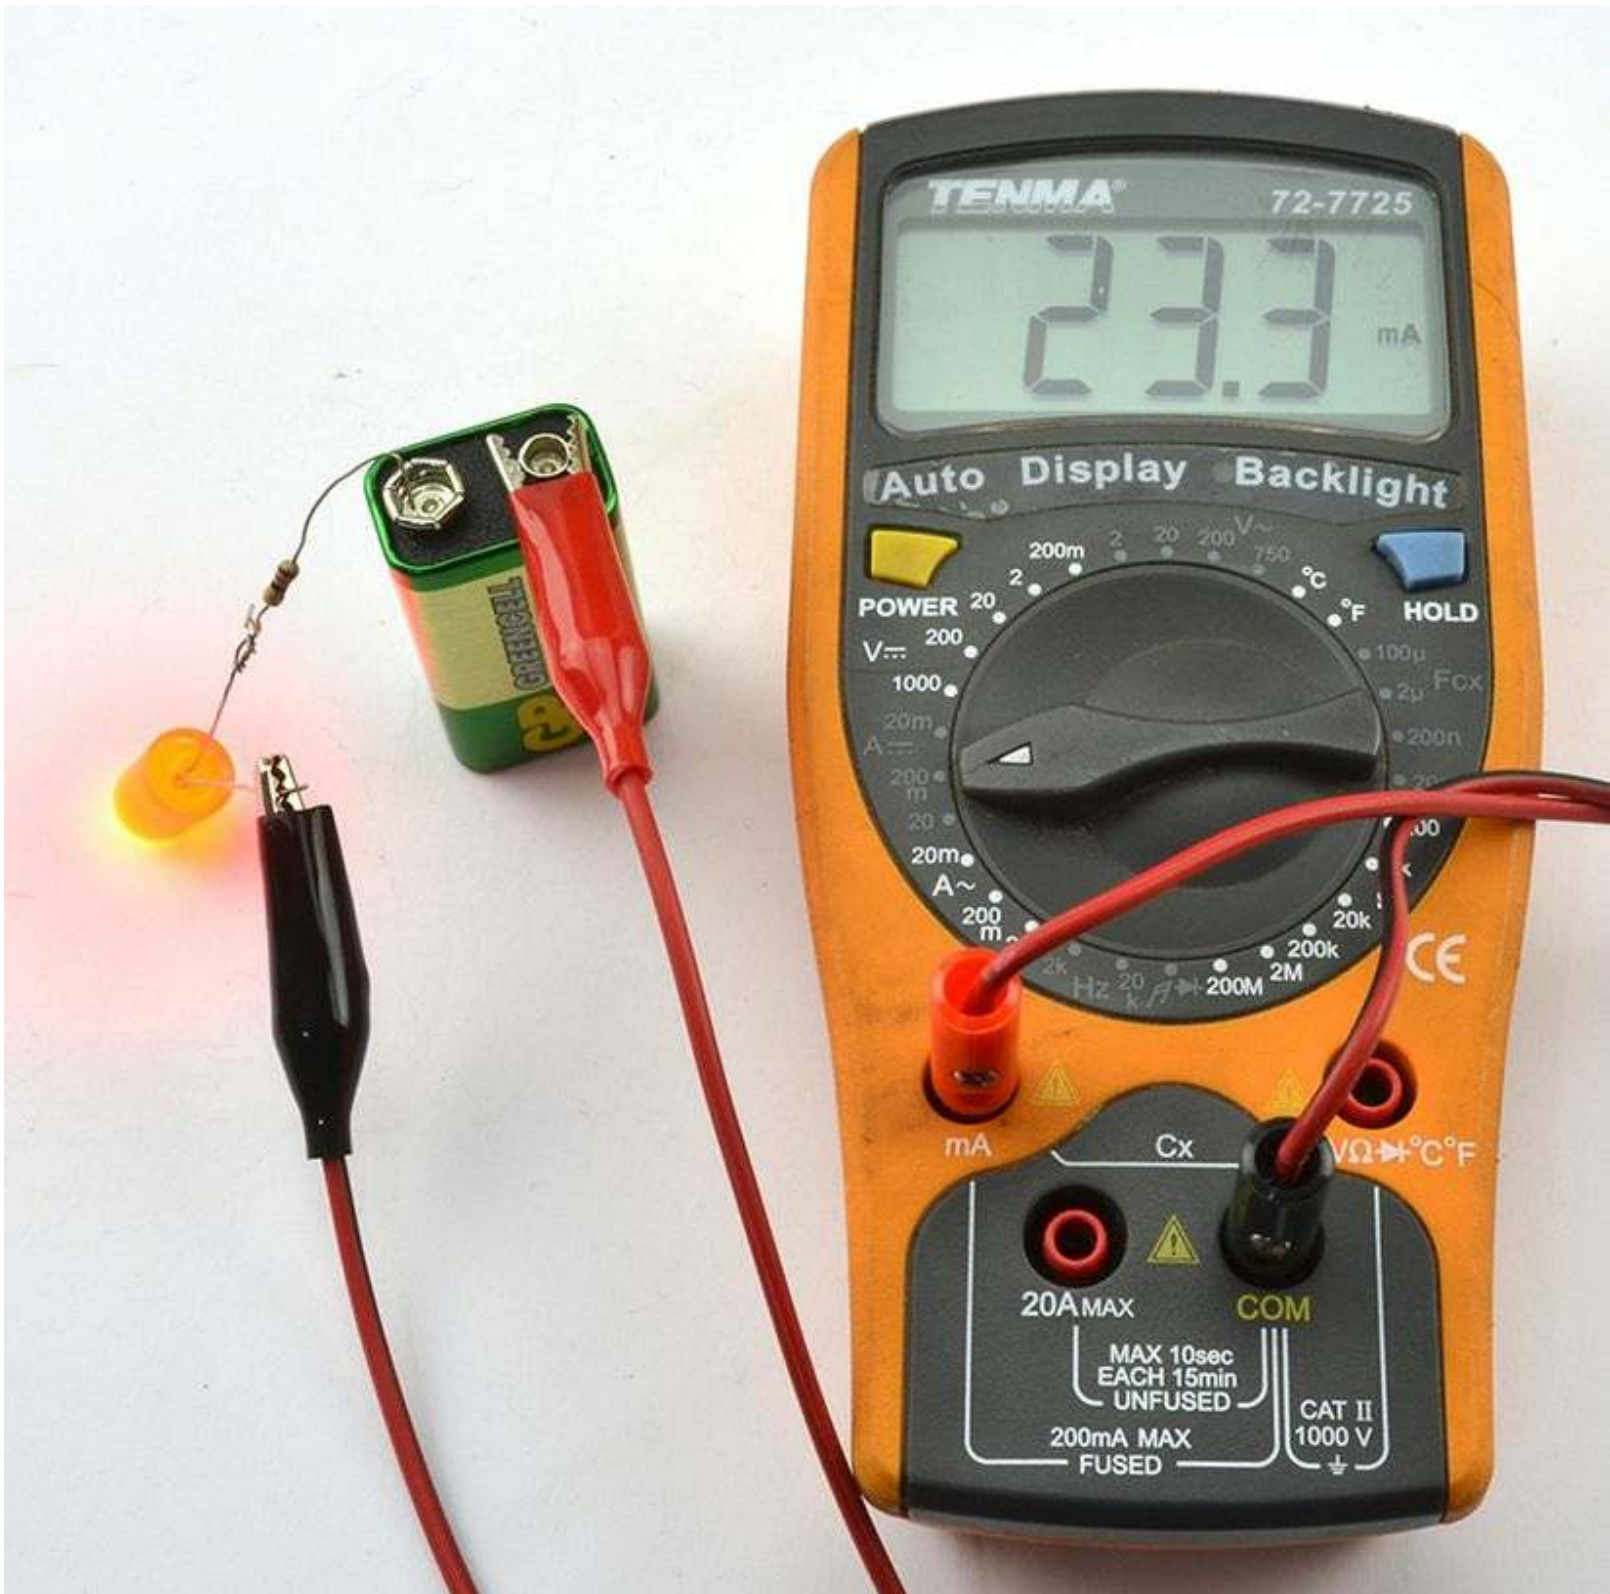

Figure 21-3. A Digital Multimeter Measuring Current
- Connect the leads to your circuit so the multimeter is in the current path. **Figure 21-3** shows a DMM being used this way.